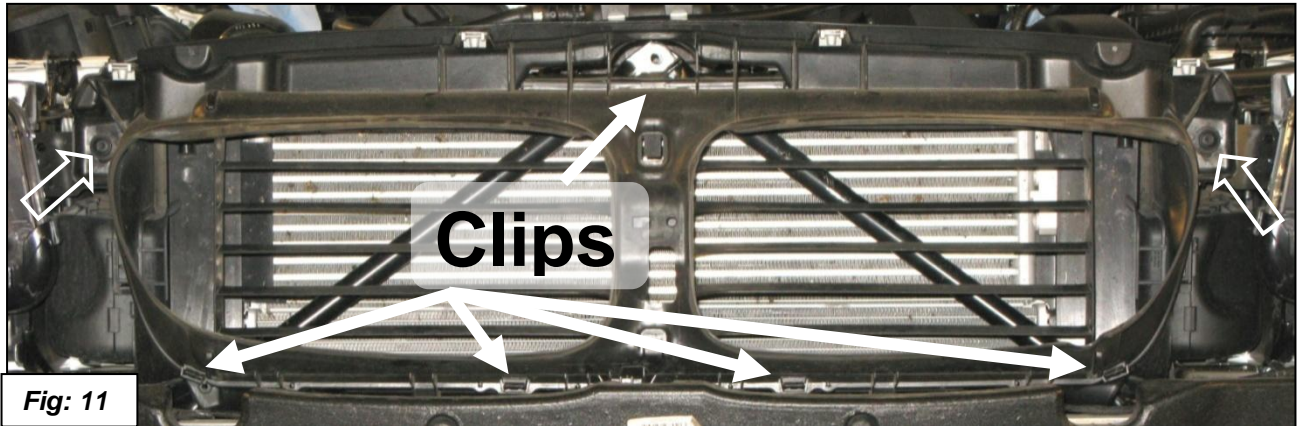

Fig: 11
10. Start by removing the outer air duct. Remove the two screws. Unlatch the five clips and remove the outer air duct. See figure 11. Slide out the air diffuser.